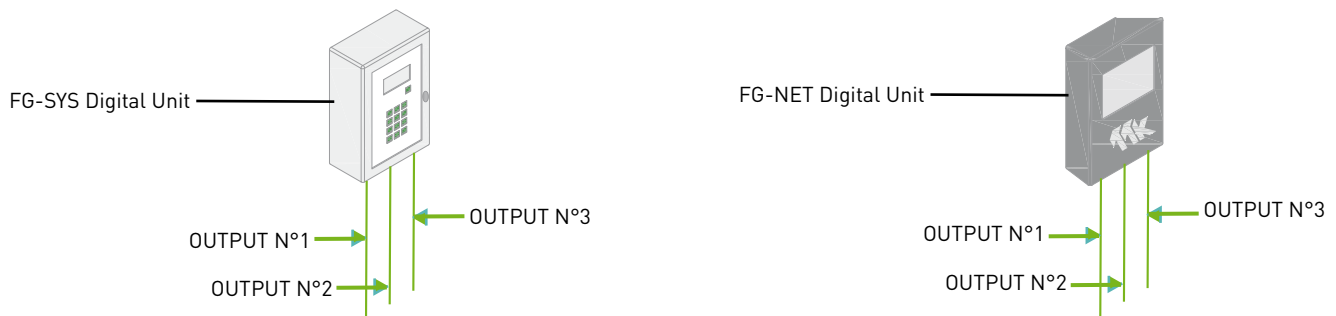

Figure 1.1
- FG-SYS and FG-NET digital units both have 3 outputs (figure 1.1).